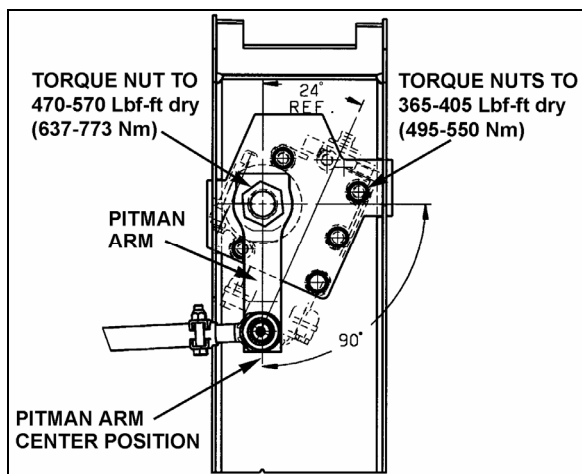

FIGURE 9: PITMAN ARM ALIGNMENT 14057
2. Afterwards, the pitman arm should be adjusted with reference marks aligned or to an angle of 90° in relation with the horizontal axis (Fig. 9).